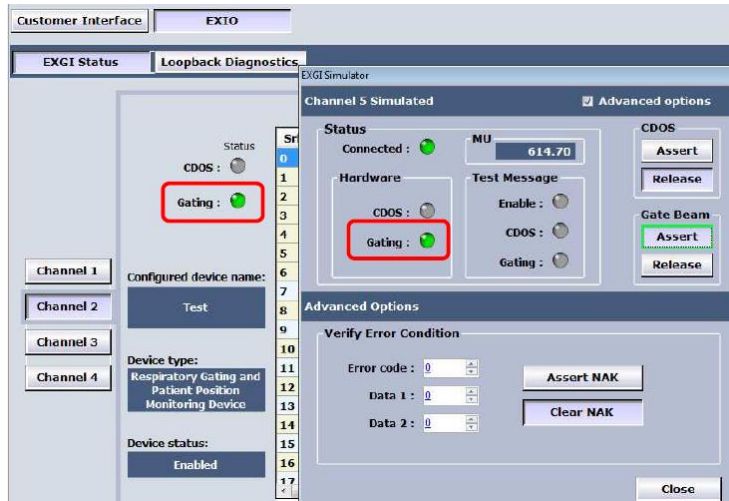

Figure 58: Successful of Gate Beam Assertion Test
- With the EXGI Simulator, click “Assert” and “Release” **Gate Beam** for each Gating Device channel. See Figure 58 for an example of a successful **Gate Beam** assertion test.